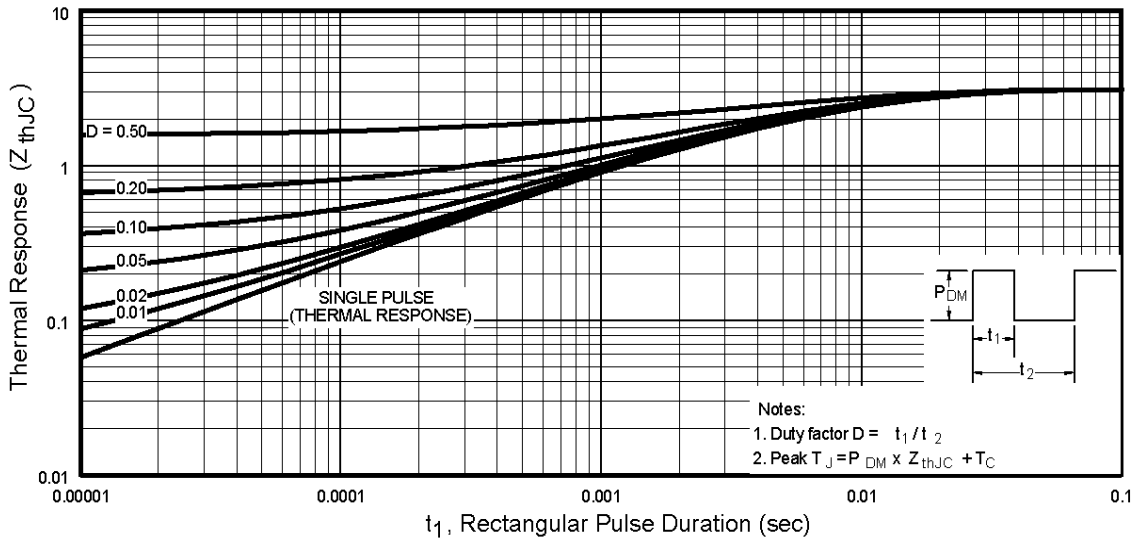

Fig 11. Maximum Effective Transient Thermal Impedance, Junction-to-Case
- ① Repetitive rating; pulse width limited by max. junction temperature. (See fig. 11)
- ② V_{DD} = 25V, starting T_J = 25°C, L = 4.7mH